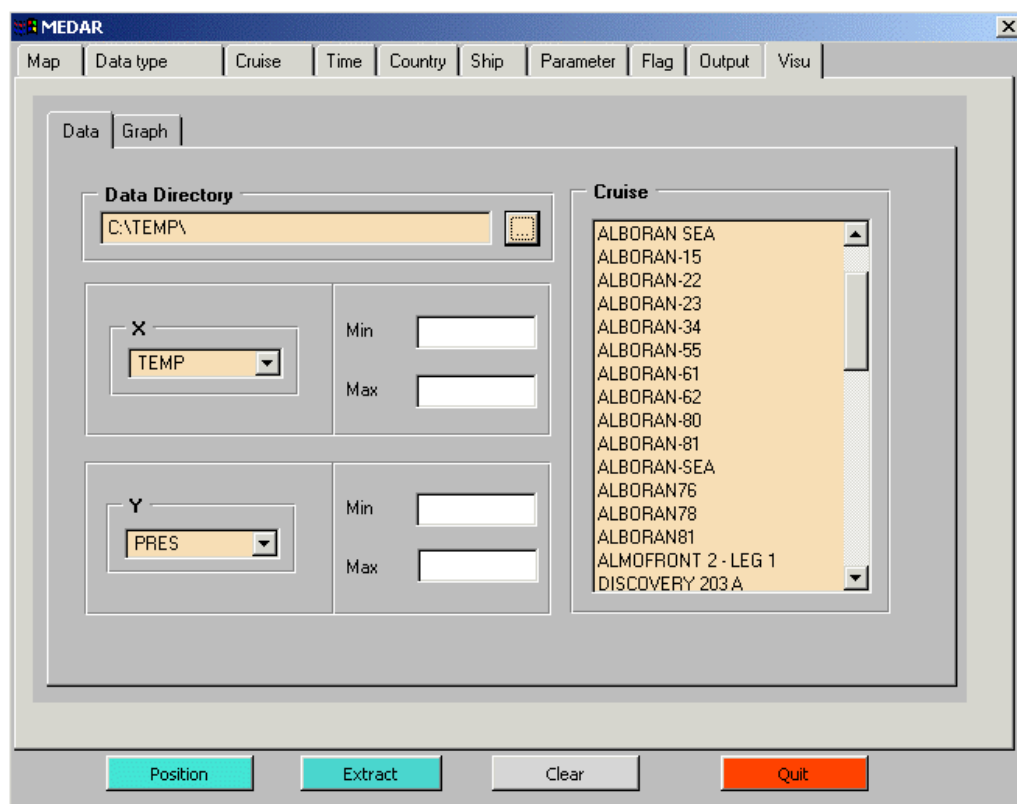

Fig. 16– MEDAR Visu window. Data sub-window
This window is used to visualize the vertical profile data that have been extracted from the CD-ROM (Fig. 16, 18 and 19).
- The Data sub-window : used to described and select the data you want to plot (Fig. 16).